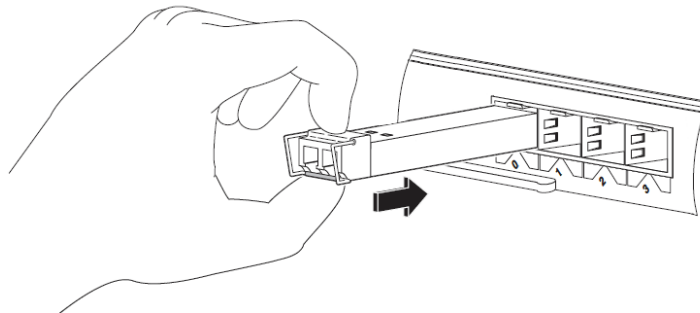

Figure 7 : Installing an SFP+ Module into a port
5. Line up the module with the port and slide it into the port as shown in Figure 7.